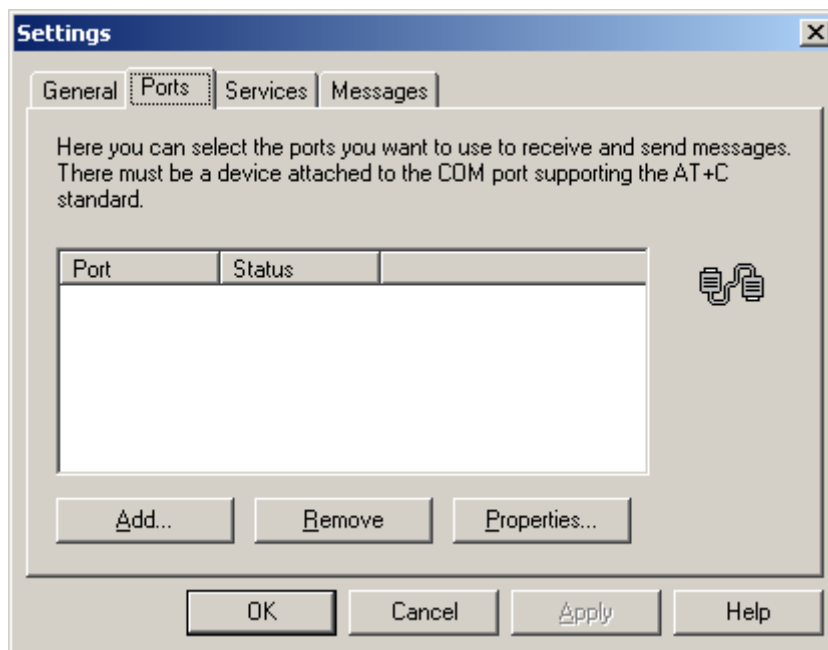

Figure 80. Settings Dialog - Ports Tab
6. The Settings dialog appears with the **General** tab selected; however, the settings in the **Ports** tab must be set up before the settings in the **General** tab. Select the **Ports** tab to produce the view shown in Figure 80.